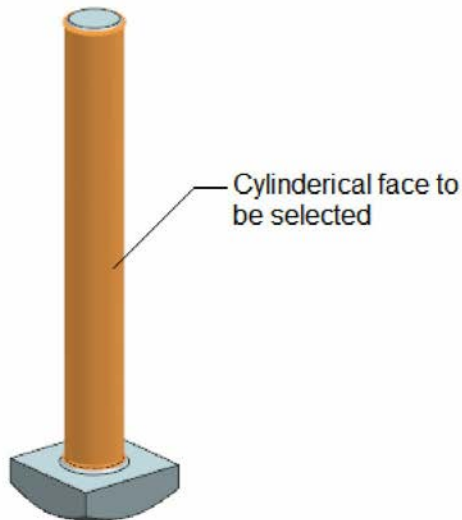
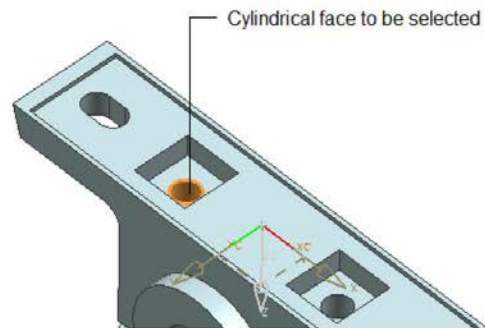

Figure 8-93 Cylindrical face to be selected from the Bolt
Figure 8-94 Cylindrical face to be selected from the Casting
- f. Assemble the Bolts by using the required assembly constraints, refer to Figures 8-93 through 8-97.
5. Select the cylindrical face of the Bolt, refer to Figure 8-93. Next, select the cylindrical face from the Casting, refer to Figure 8-94.